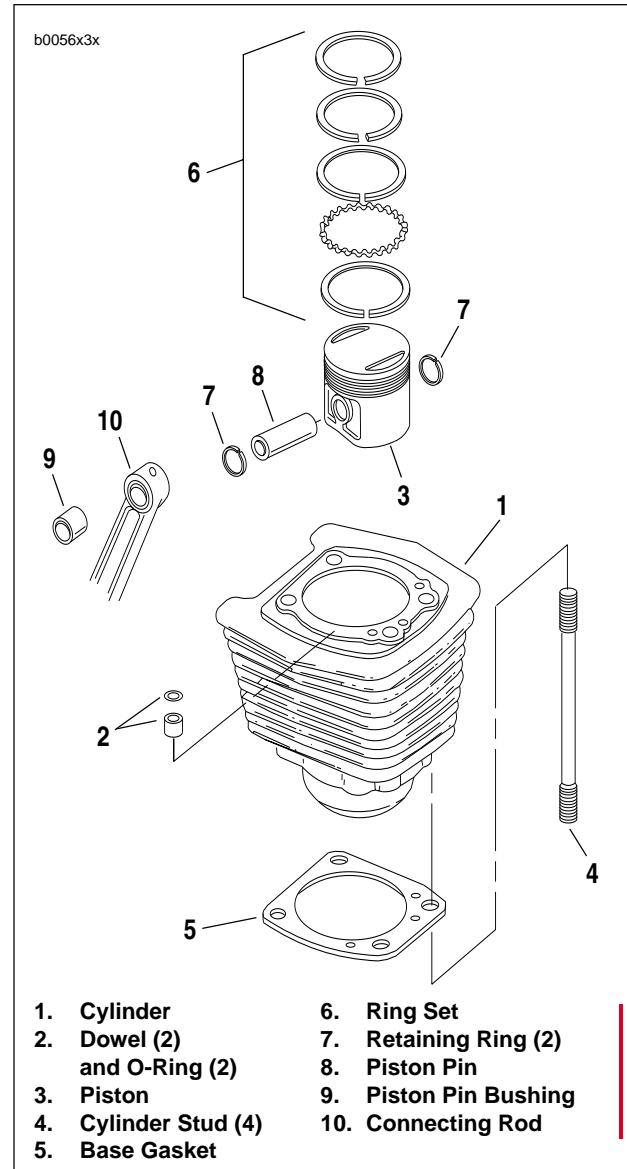

Figure 3-29. Cylinder and Piston
4. See Figure 3-29. Turn engine over until piston (3) of cylinder being removed is at bottom of its stroke.
5. Carefully raise cylinder (1) just enough to permit placing clean towel under piston to prevent any foreign matter from falling into crankcase.
10. See Figure 3-29. Spread piston rings (6) outward until they clear grooves in piston (3) and lift off.